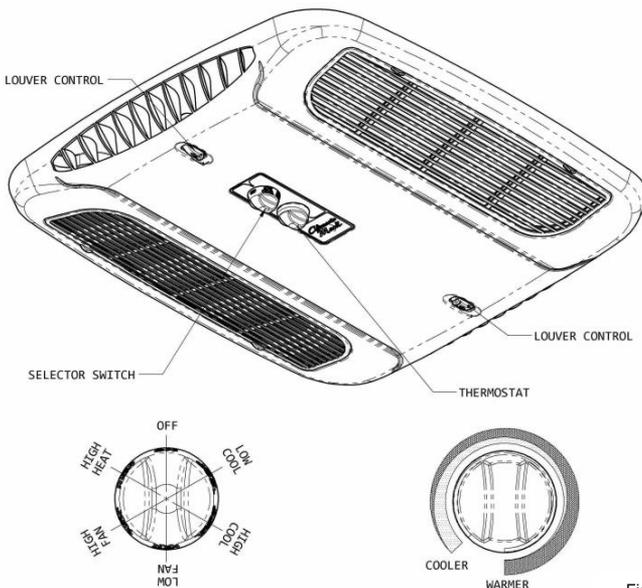

Figure 1
A. The Selector Switch – The selector switch determines which mode of operation the Heat Pump will be in. By rotating the selector switch, the operator can obtain any system function desired. System functions vary depending upon options of both the roof top unit and ceiling assembly. Figure 1 shows selector switch location and lists all available functions by model.
I. For Cooling (Refer to Figure 1, page 8).
(Refer to Figure 1, page 8).